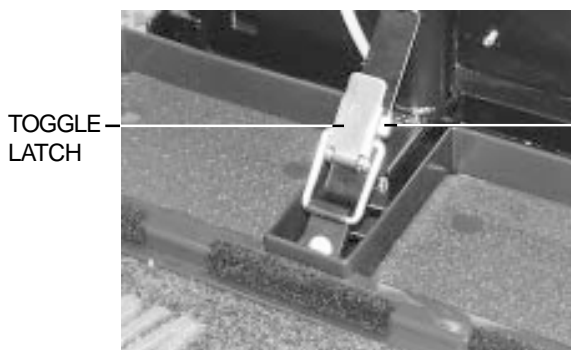

Figure 14. Toggle Latch (Latched)
1. Push in the toggle latch release button while pulling back the toggle latch. See figure 14.
5. Secure the toggle latch. See figure 14.